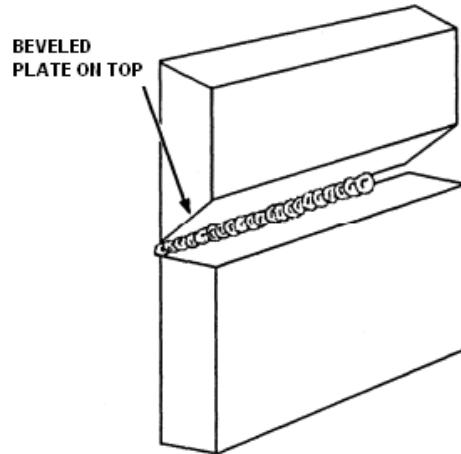

Figure 7-33.—Horizontal butt joint.
**BUTT JOINTS.**— Most butt joints, designed for horizontal welding, have the beveled plate positioned on the top. The plate that is not beveled is on the bottom and the flat edge of this plate provides a shelf for the molten metal so that it does not run out of the joint (fig. 7-33). Often both edges are beveled to form a 60-degree included angle. When this type of joint is used, more skill is required because you do not have the retaining shelf to hold